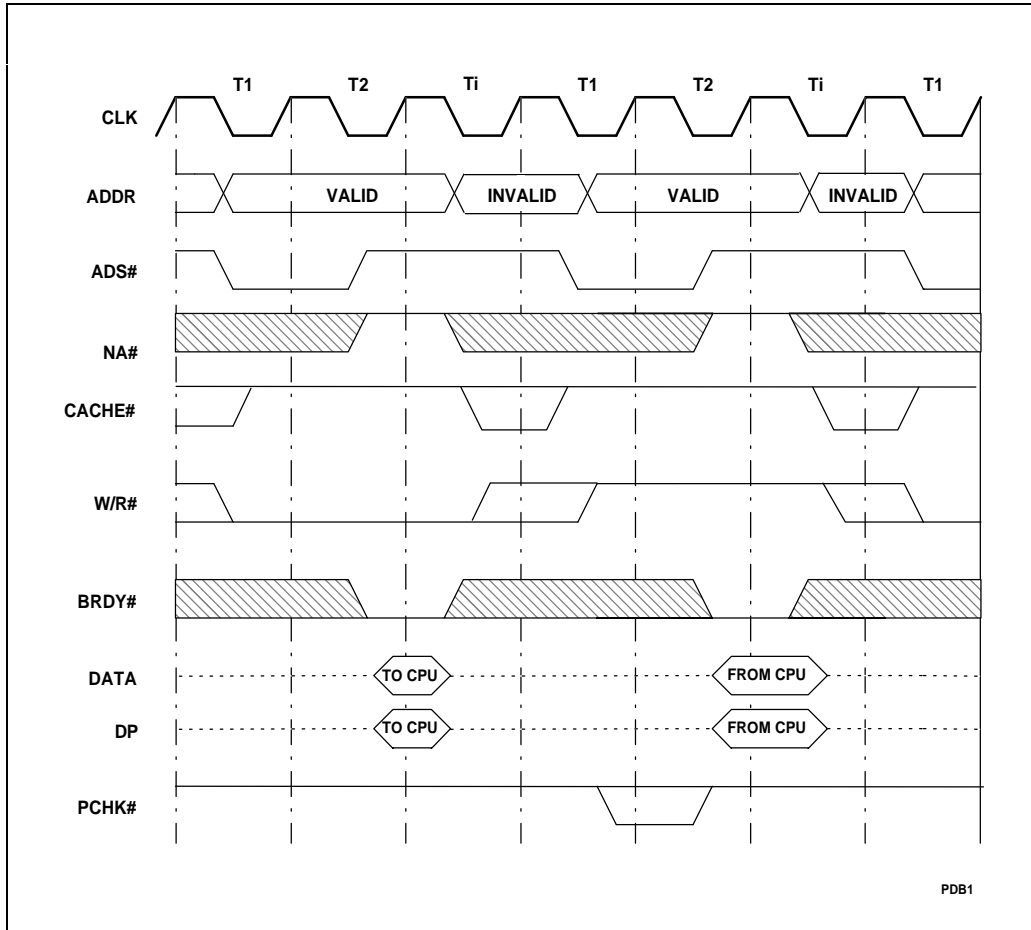

Figure 12-2. Data Parity during a Read and Write Cycle
Even data parity is driven on the DP7-DP0 pins in the same clock as the data bus during all Pentium processor initiated data write cycles. During reads, even parity information may be driven back to the Pentium processor on the data parity pins along with the data being returned. Parity status for data sampled is driven on the PCHK# pin two clocks after the data is returned. PCHK# is driven low if a data parity error was detected, otherwise it is driven high. The PCHK# pin will be asserted for one clock for each clock a parity error is detected and may be latched by the system. The PCHK# pin is a glitch free signal, so no spurious assertions of PCHK# will occur. Figure 12-2 shows when the data parity (DP) pins are driven/sampled and when the PCHK# pin is driven. For additional timing diagrams that show data parity, see the Bus Functional Description chapter.